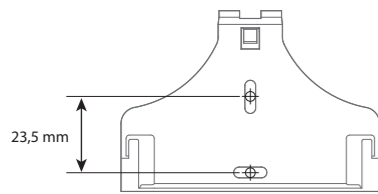

Fig. 3
- Make two holes in the wall as shown in Fig. 3, following the details described in the section on "General warnings";